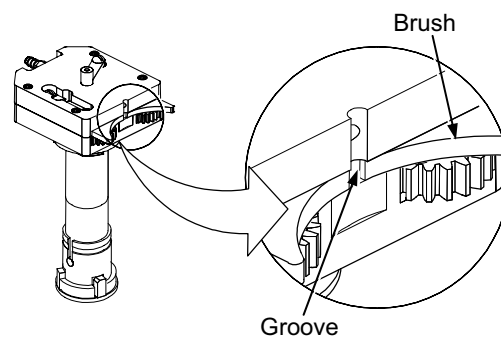

Figure 35 Inspecting the Brush
9. Examine the brush. See Figure 35.